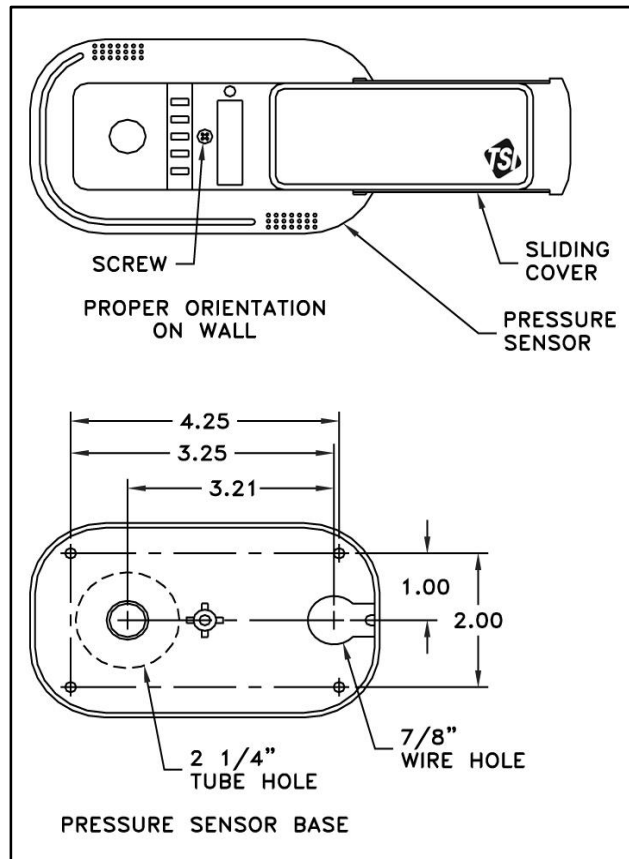

Figure 2: Pressure Sensor Orientation and Mounting Template
- The pressure sensor must be orientated on the wall as shown in Figure 2. Looking at the mounted sensor, sensor hole is on the left (2¼") and wire hole is on the right.
- Drill a 7/8" hole on the side of the wall that the pressure sensor will be mounted. This hole is for the six-conductor sensor cable. Refer to Figure 2 for a hole mounting pattern.
- Slide sensor cover to right and remove screw that holds the sensor base to the pressure sensor (Figure 2). Remove pressure sensor and store in a safe place.